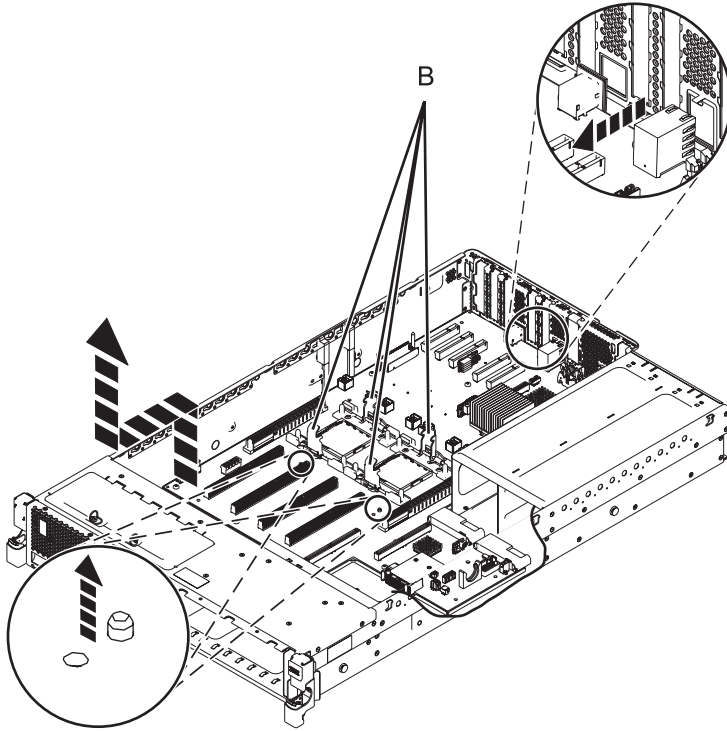
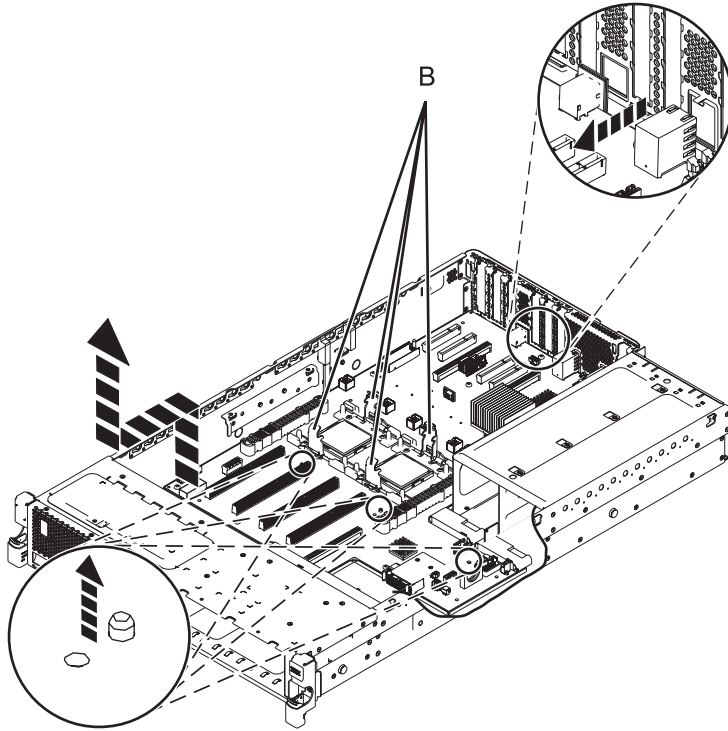

Figure 48. Removing the system backplane from the 8231-E2B
Figure 49. Removing the system backplane from the 8231-E1C, 8231-E1D, 8231-E2C, 8231-E2D, or 8268-E1D
- b. Grip the system backplane by both heat sink load arms (**B**). See Figure 48 on page 59 or Figure 49 on page 60.